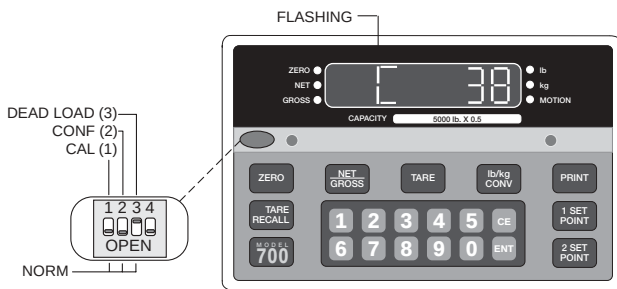

Figure 5-1. Close Switch 3
2. Close SW1-3 (dead load). The leftmost display digit should be flashing C as shown in Figure 5-1.